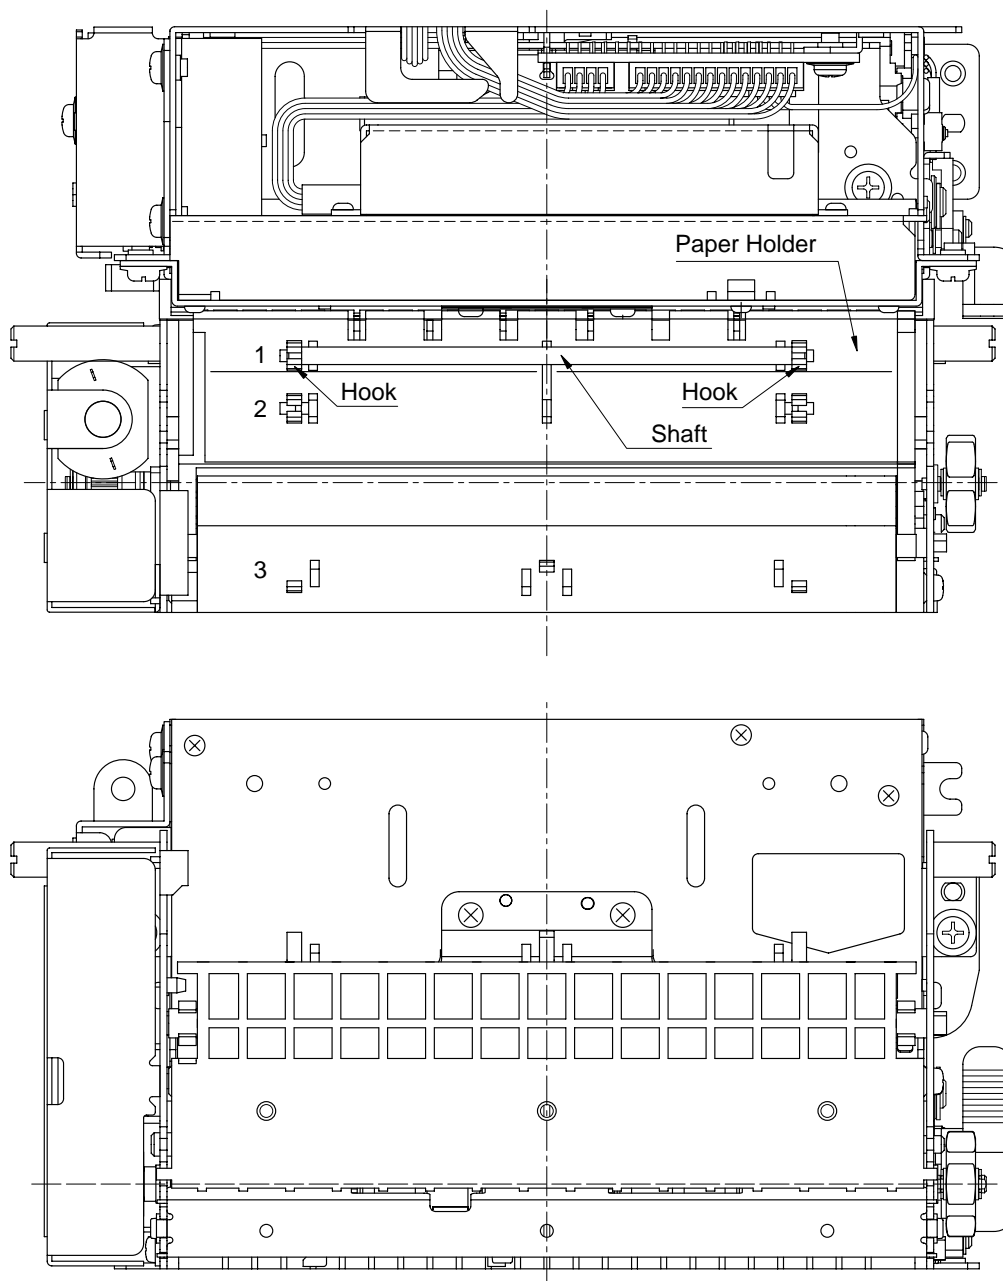

Figure 8-4
- **Paper thickness: Min. 0.10 to Max. 0.15 mm. (See Figure 8-4)**